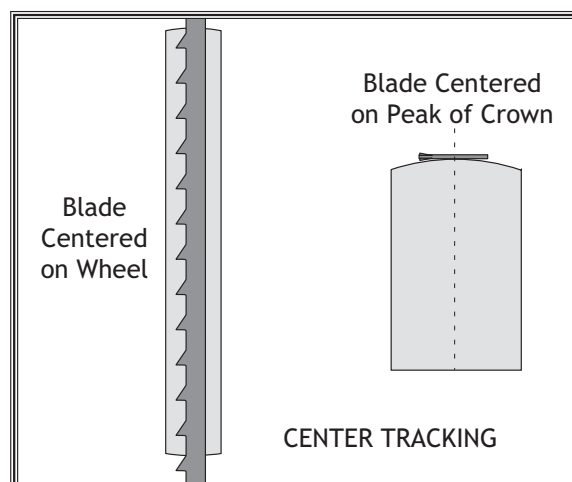

Figure 26. Center tracking examples.
4. Spin the upper wheel by hand at least three times and watch how the blade rides on the crown of the wheel. Refer to **Figure 26** for an illustration of this concept.